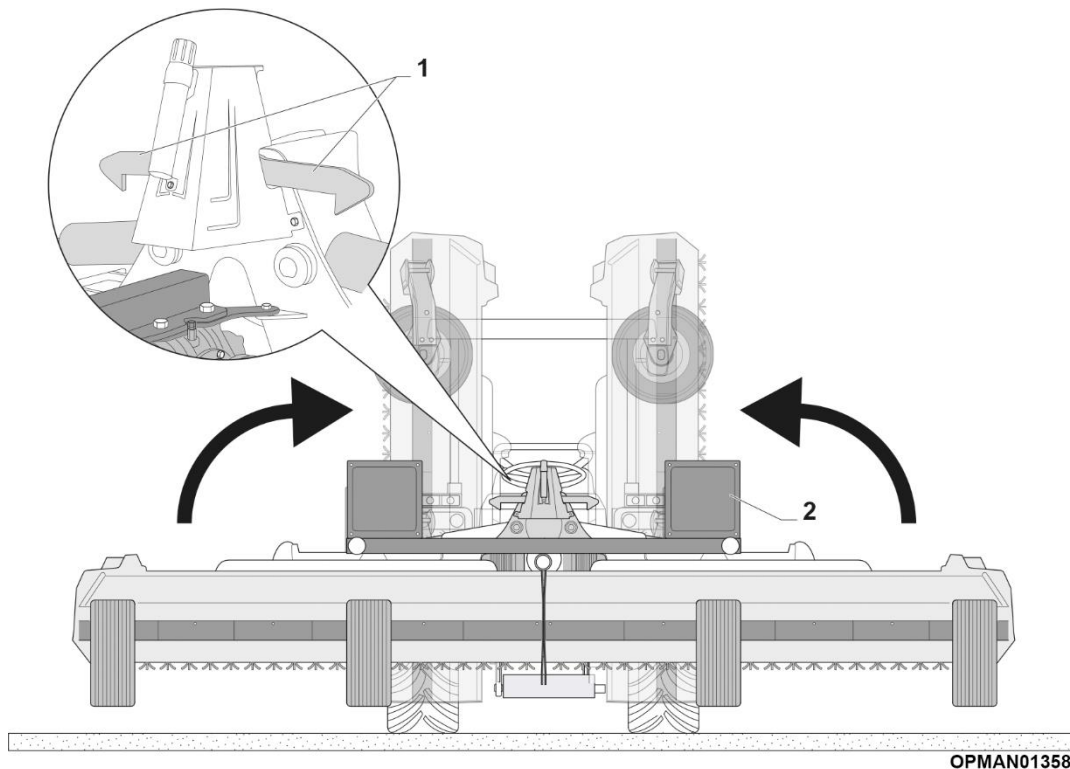

Figure 10
- The arms should be lifted so that the locking arms secure the bodies in position, see Figure 10 (1).
- The rear light bar is installed, see Figure 10 (2).